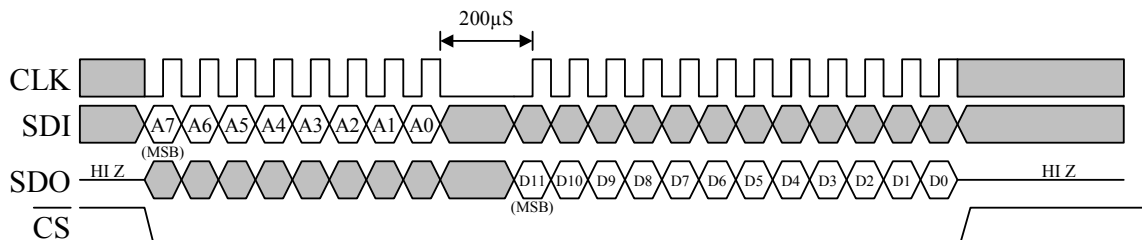

Figure 5 Timing Diagram for an A/D conversion and 12-Bit data read operation.
The KXP84 has an onboard 12-bit ADC that can sample, convert and read back sensor data at any time. Transmission of an 8-bit axis-conversion command (see Table 10) begins on the falling edge of nCS. The MSB of this command indicates if you are writing to (0) or reading from (1) the register. After the eight clock cycles used to send the command, the host must hold SCLK low for at least 200μs during the A/D conversion time. Note that all returned data is sent MSB first. Once the data is received, nCS must be returned high for at least 130nS before the next data request. Figure 5 on the following page shows the timing diagram for the accelerometer 12-bit ADC read operation.